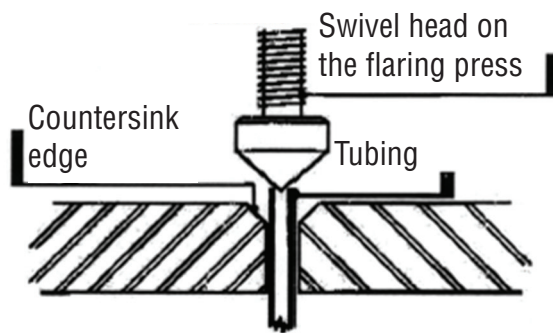

Fig. 1
5. Position the head cone into the end of the tubing (Fig. 1). Holding it in place with a thumb and forefinger, tighten the flaring press by turning the T-bar clockwise.